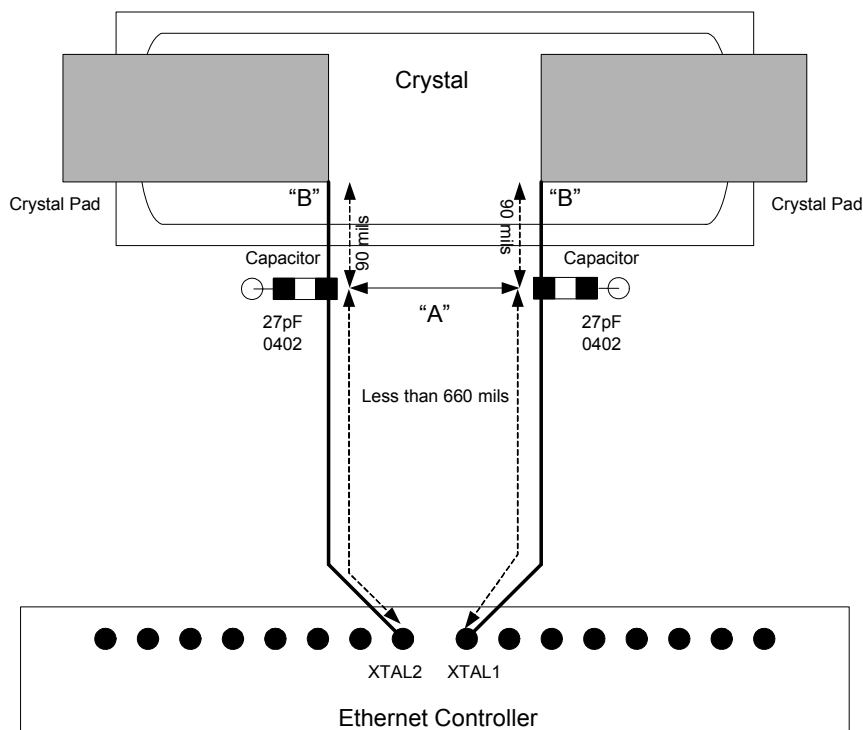

Figure 12-10. Recommended Crystal Placement and Layout
Figure 12-10 shows the recommended placement and layout of an internal oscillator circuit. Note that pin X1 and X2 refers to XTAL1 and XTAL2 in the Ethernet device, respectively. The crystal and the capacitors form a feedback element for the internal inverting amplifier. This combination is called parallel-resonant, because it has positive reactance at the selected frequency. In other words, the crystal behaves like an inductor in a parallel LC circuit. Oscillators with piezoelectric feedback elements are also known as "Pierce" oscillators.
- Place load capacitor solder pad directly in line with circuit trace (see Figure 12-10, point A).
- Route XTAL1 and XTAL2 traces to nearest inside corners of crystal pad (see Figure 12-10, point B).